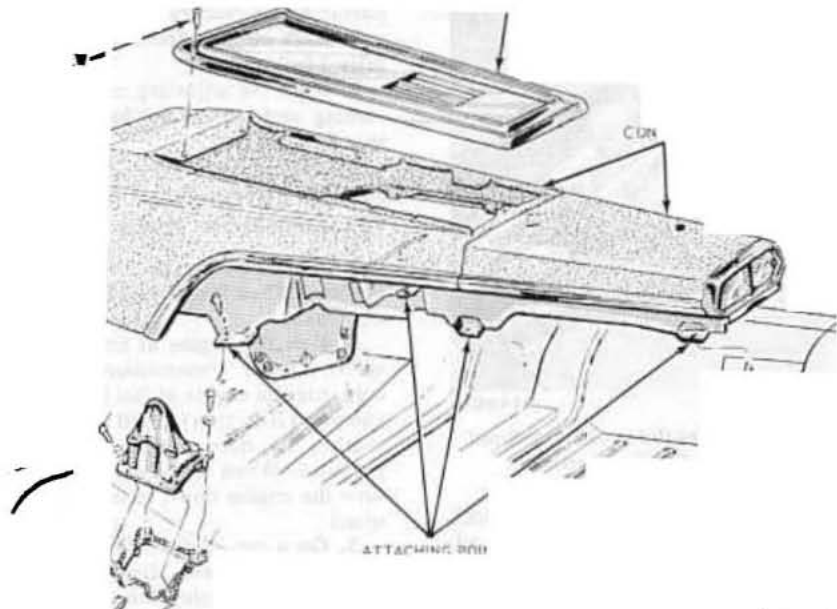

Fig. 47—Console Component Parts—MX-FX
attach the console finish panel casting to the console panel, and remove the casting (Fig. 47).
5. Remove the twelve screws that attach the console panel mouldings to the console panel and remove the mouldings (Fig. 47).